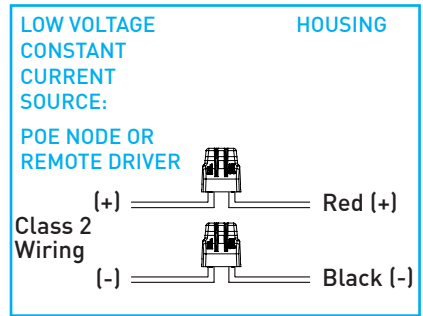

Fig.23
Feed structured building wires through knockout, secure to corresponding connector "Fig.23" and tighten strain relief.
**Quick connectors** provided for low voltage connection: Red (+) and Black (-) "Fig.23".